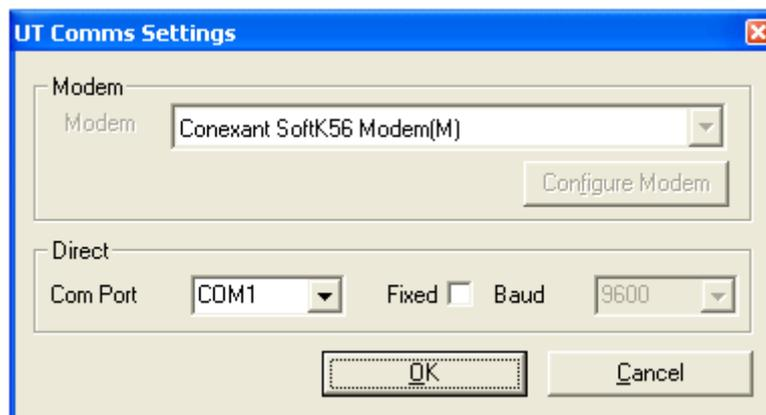

Figure 17 - UT communication settings Screen
Communications to the IMC/W2 may be conducted directly or remotely, via modem. The operator is able to specify which communications port is to be used for direct communications (**COM1 to COM255**), and the modem configuration for remote communications, refer to Figure 17. The recommended modem settings are detailed in Table 6 (*Modem Settings Reference Table*). Additionally, the user may select a fixed baud rate for direct communications.
- On the *Configuration* screen select the *UT Comms Settings* option and the *UT Comms Settings* screen will be displayed – see Figure 17.
- On the *Configuration* screen select the *UT Comms Settings* option and the *UT Comms Settings* screen will be displayed – See Figure 17.